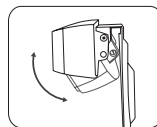

FIG 6
5. You can adjust the angle of the camera by moving the camera up and down, and loosen and tighten the screws to fix the desired angle **(FIG 6 and 7)**.